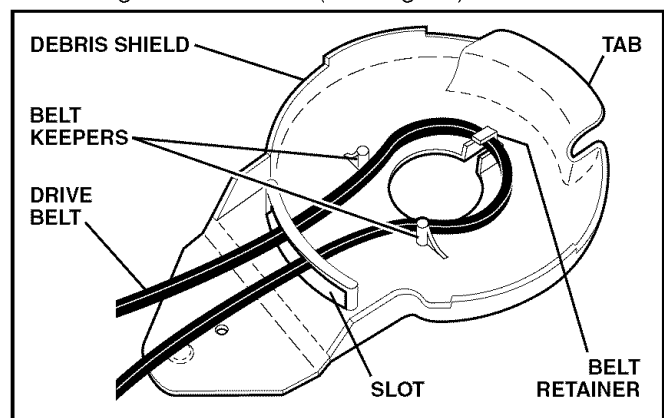

FIG. 20
1. Place new drive belt in the belt retainer of the debris shield. Be sure to route belt between belt keepers and through slot as shown (See Fig. 20).